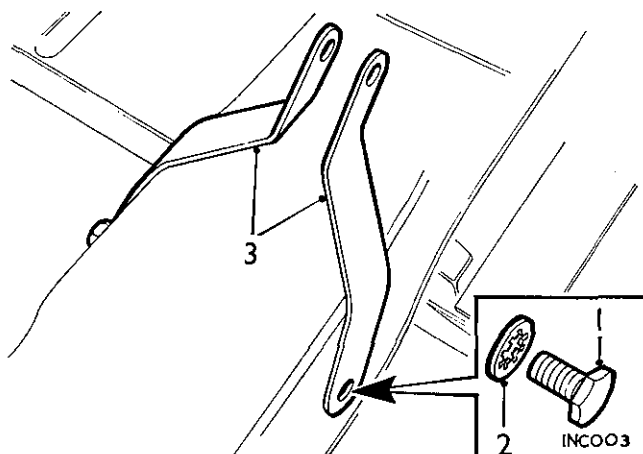

Fig. Rb.15
- (7) Remove the carpet to obtain access to the bracket securing screws. Unscrew and remove the two securing screws (1) (with their spring washers) and detach the mounting straps (3), see Fig. Rb.15.
- (4) Remove the carpet to obtain access to the strap securing screws. Unscrew and remove the two securing screws (1) (with their spring washers) and detach the mounting straps (3), see Fig. Rb.15.